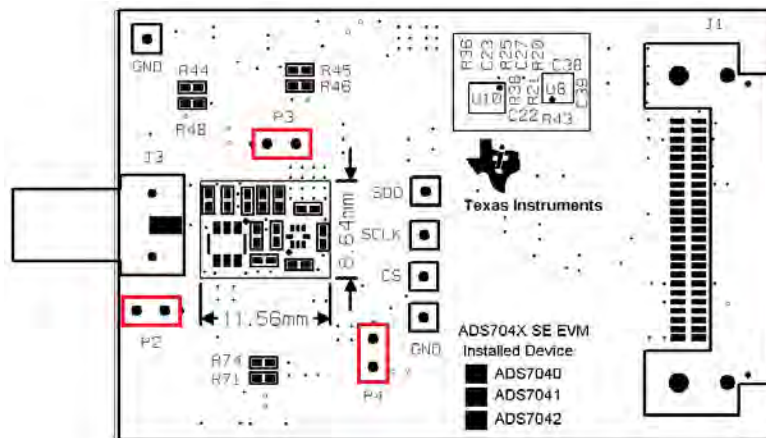

Figure 2. ADS7041EVM Default Jumper Settings
A silkscreen plot detailing the default jumper settings is shown in Figure 2.
- Step 1. Verify the ADS7041EVM jumpers are configured as shown in Figure 2.